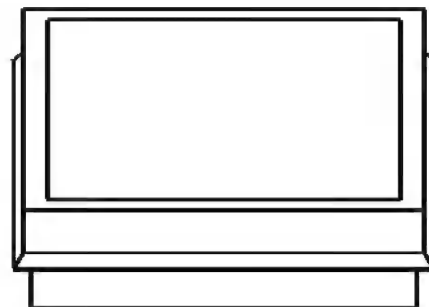

FIGURE 6-2.6 Enlarged skylight detail – revised
14. Position the skylight tag so the tag does not overlap the skylight (Figure 6-2.6).